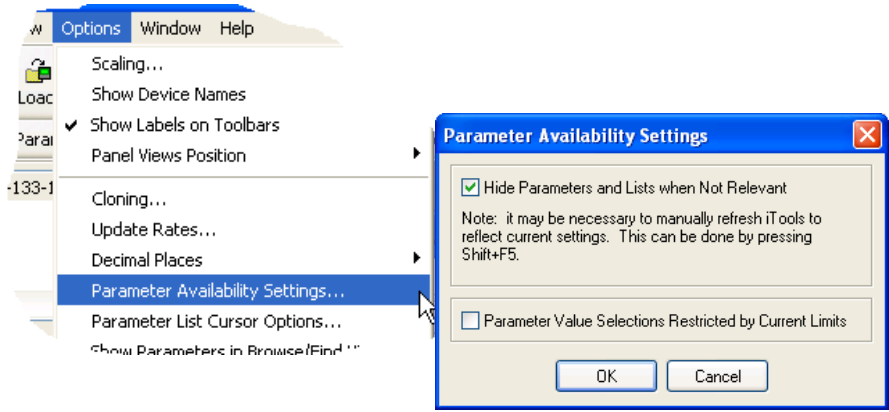

Figure 125 Show/Hide Parameters
- Hidden Parameters. By default, iTools hides parameters which are considered irrelevant in the current context. Such hidden parameters can be shown in the table using the 'Parameter availability' settings item of the Options menu (Figure 125). Such items are displayed with a shaded background.